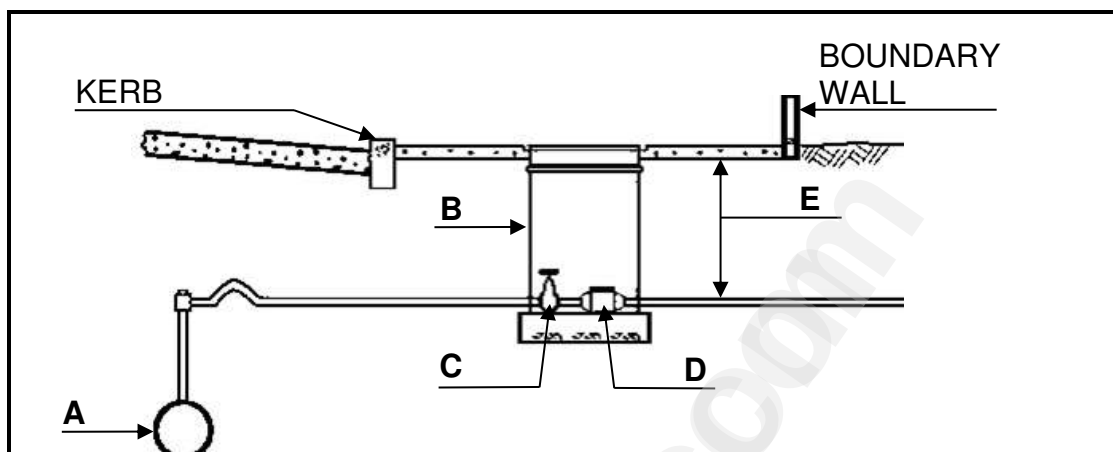

FIGURE 4.1
- 4.1 Answer the following questions with regard to the water supply system in FIGURE 4.1.